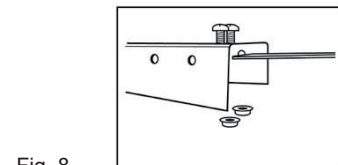

Fig. 8.
The modules must be assembled in pairs and must be connected to a support. The carrier must be screwed to the end part (4) with the 5 mm x 15 mm screws and the 6 mm nuts (10), fig. 8.